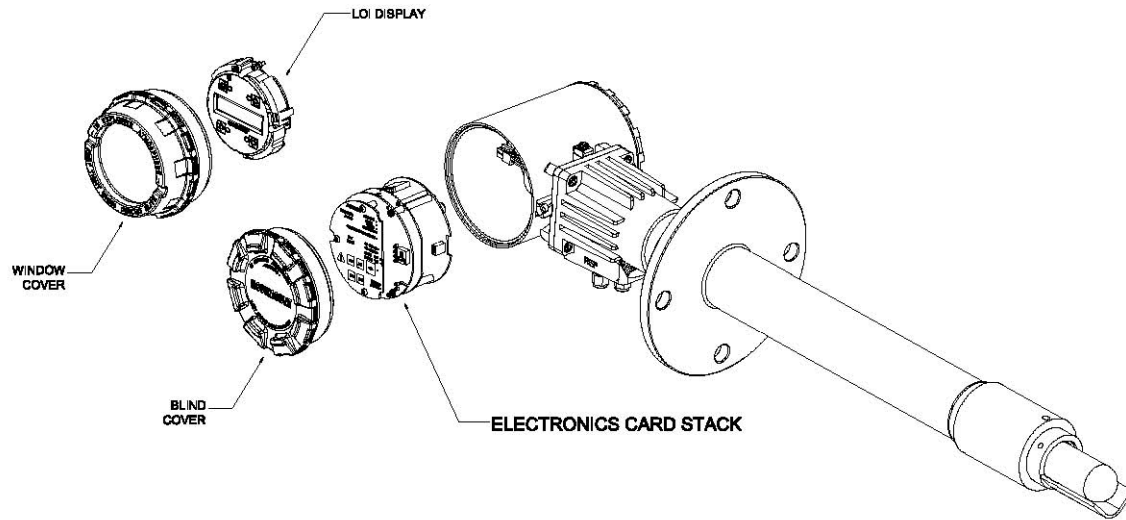

Figure 1 – Integral Probe Components
- 2.3 Refer to Figure 1. In the electronics compartment, loosen but do not completely remove the three screws securing the card stack. If a keypad display is present, it can remain attached to the card stack during disassembly. If a LOI is present, it may have to be removed for easier removal of the card stack. Disconnect the four position multicolored wire harness from the top board. Remove the electronics card stack assembly from the housing.